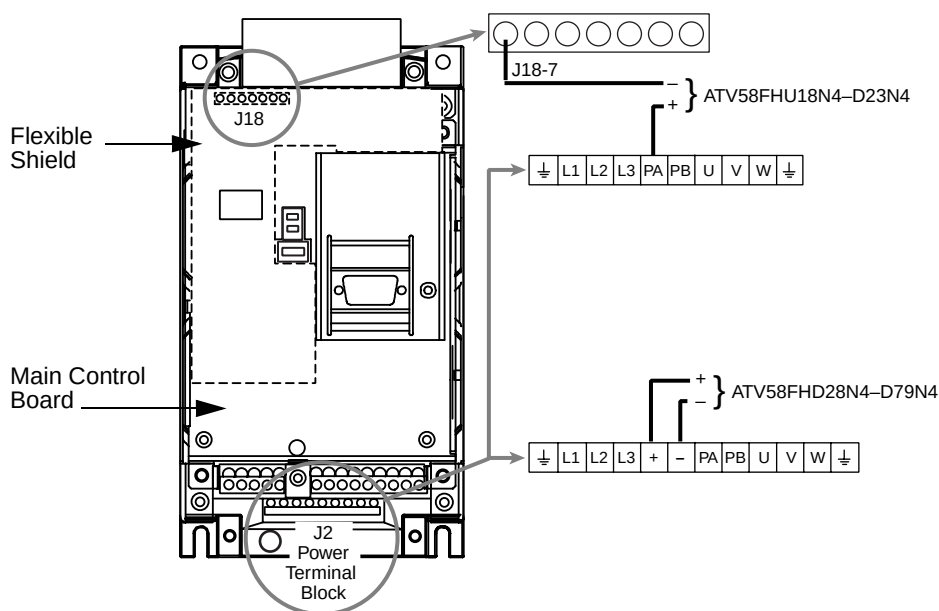

Figure 10: DC Bus Measurement Terminals
The DC bus voltage level is determined by monitoring the (+) and (-) measurement points. Their location varies by drive controller model number as listed in Table 8 and shown in Figure 10 on page 21. The drive controller model number is listed on its nameplate.
3. Read the model number of the drive controller from the nameplate and identify the corresponding (+) and (-) measurement points from Table 8 and Figure 10.